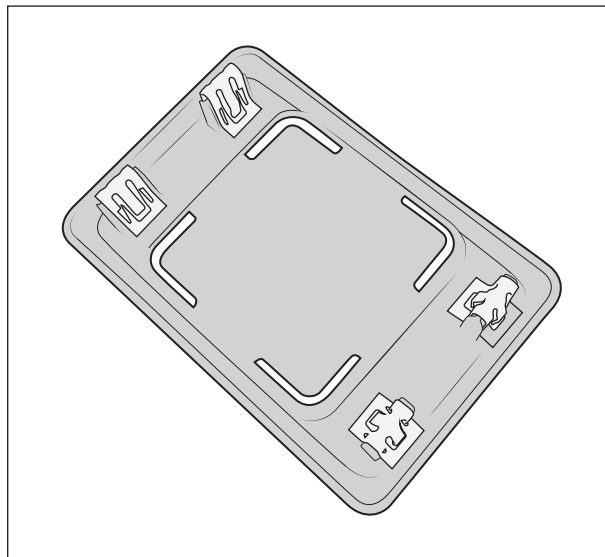

Figure 18
4. If NOT installing a rear auxiliary light, Install four metal retainer clips onto the block-off bezel (fig. 18), then install over the opening in the bumper.